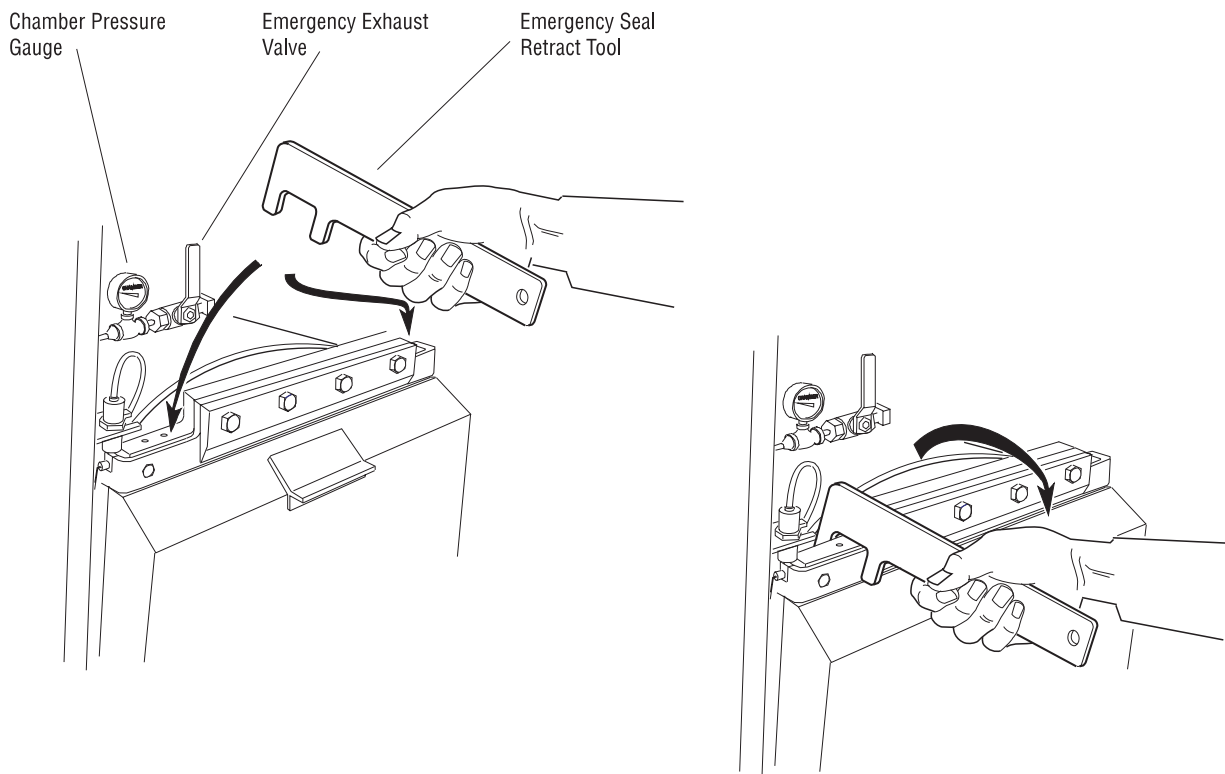

Figure 3-11. Emergency Door Opening Procedure
1. Swing open the access panel of the sterilizer. Open the emergency exhaust hand valve until chamber exhausts to 0.0 psig. See Figure 3-11.
2. Using the door release tool provided, press on the upper left hand and right hand corners of the chamber door (see Fig. 3-11). The door should give inward slightly, indicating that the seal has been pushed into the groove. The door must “bottom out” against the metal end-frame of the sterilizer chamber.